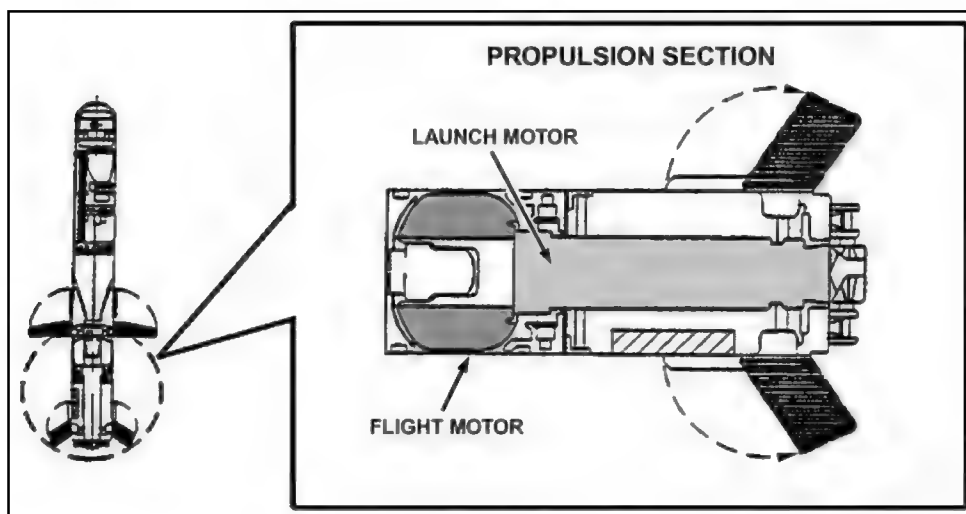

Figure 1-24. Missile propulsion section.
d. **Propulsion Section.** The propulsion section (Figure 1-24, page 1-16) consists of the launch and flight motors.